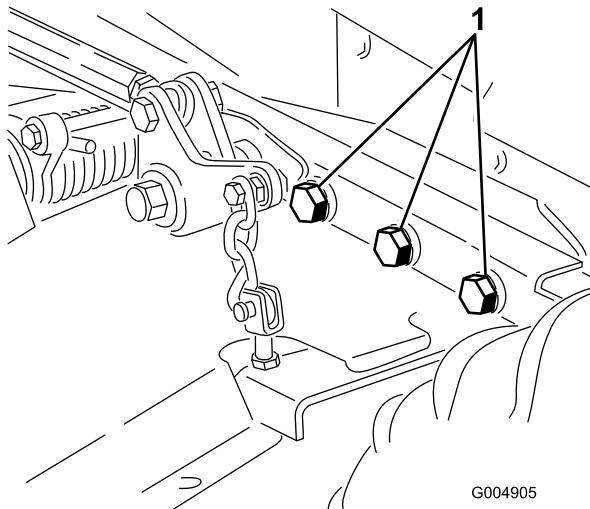

Figure 77
4. Check all fasteners for looseness and tighten them as necessary. Especially torque the 6 bolts securing the mower deck frame to the traction unit (Figure 77) to 359 N·m (265 ft-lb).